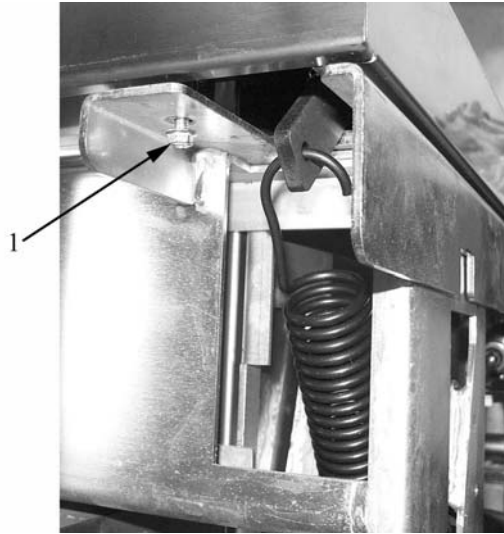

Fig. 9
- unscrew the back fixing screws item 1 in Fig. 9;